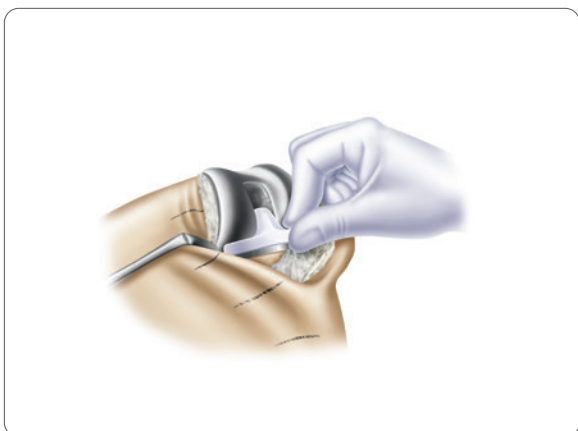

Figure 66
1. Flex the knee to 90° and push the insert as far back as it will go posteriorly with the knee in flexion (**Figure 66**).